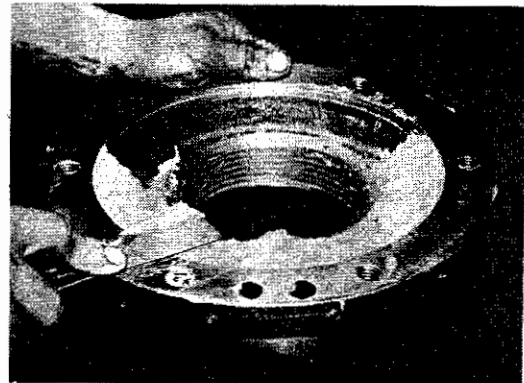

Fig. 7 - Packing Grease Into Bearing Cap
6. Pack grease solidly into lower 200°-270° (depending on the particular part and specified quantity of grease) of the cover or cap. Keep an open portion at the top of the cover or cap as shown in Fig. 7.